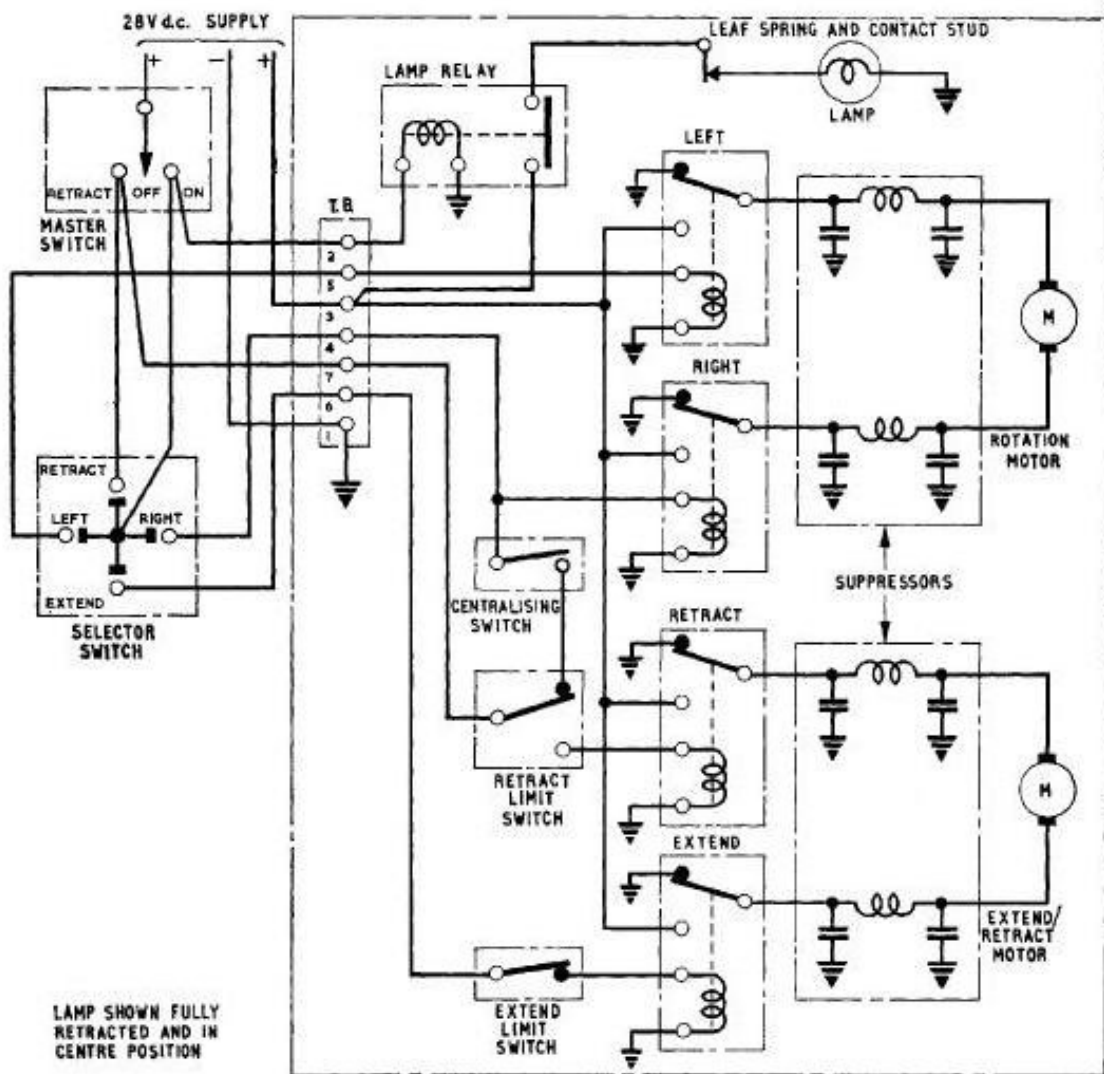

Fig. 5. Circuit diagram
9. The lamp is shown in fig. 5 connected in a typical circuit in which a three position
switch shown in fig. 5 a diagonal movement to the lower left-hand corner will cause the lamp to extend whilst rotating to the left. The operation of the lamp is considered for three basic selections, extend, rotate right or left, and retract.
21. The lamp should be functionally tested using a test circuit similar to that given in fig. 5, checking all functions of the lamp. During these tests whilst the lamp is moving, check that the filament remains bright with no dimming or flickering.